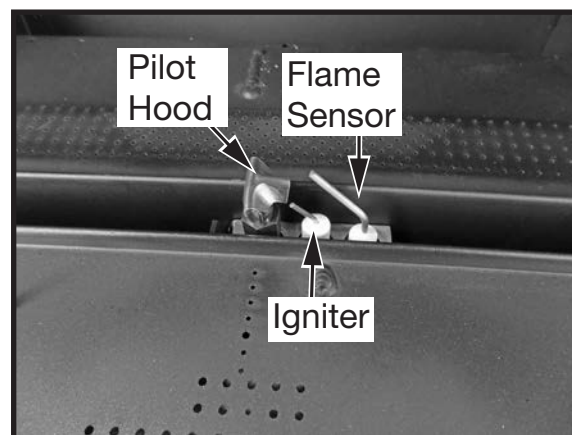

Figure 111: Pilot assembly.
- b) Check the pilot system for proper flame size and operation. Clean pilot free (Figure 111) of soot, dust or any other deposits.